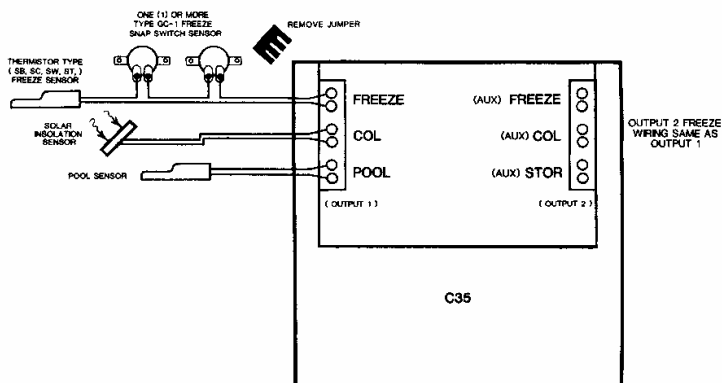

FIGURE 8-1, FREEZE SENSOR WIRING USING SEPARATE FREEZE SENSOR
DIFFERENTIAL TEMPERATURE OVERRIDE (freeze sensor wiring shown in fig. 8-1)
The Output 1 differential Turn On overrides Output 2 draindown freeze protection. When the system is drained (Output 2 OFF) and the collector/storage temperature differential reaches the Turn ON threshold (Output 1 ON), Output 2 is forced ON to refill the collector array and allow solar collection. This control function is often desirable for systems that are used in climates where ONLY mild freezes occur (**NEVER BELOW 20°F**). To enable this control function, the freeze sensors must be wired as shown in Figure 8-1.
For operation of Draindown Freeze Protection refer to Section 7. See Sensor Wiring, Figure 8-1 and 8-2.
The C35 may be wired using either the "collector" sensor (except if INS-1 Insulation sensor used) or a "separate" freeze sensor. In either case a minimum of one (1) GC-1 Snap Switch Thermostat must be wired "in series" with the selected thermistor sensor. See Figure 8-1 and 8-2.